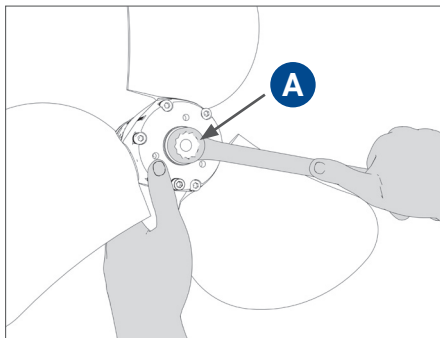

FIG. 4 | Lock nut tightening
- Tighten the lock nut **A** (**Fig. 4**) applying an appropriate tightening torque (depending on the type of nut, such as suggested in the TABLE OF TIGHTENING TORQUES). When tightening, take care to move the blades and gradually tighten the nut until the specified tightening torque is reached.